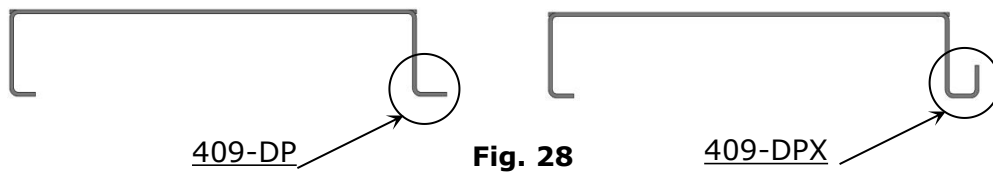

Fig. 28
1. Place the off side platform onto the cross beam. Note: Pay attention to the bend-strip edge of the platform, must be placed same as fig 28.